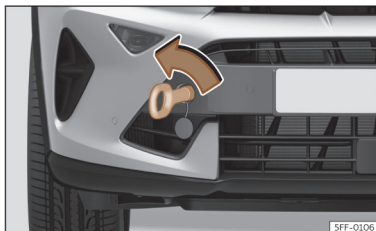

Fig. 214 Right side of the front bumper: towline anchorage screwed in.
- Screw the towing eye in the housing by turning it to the maximum **anticlockwise** >>> **Fig. 214**, >>> ⓘ. Use a suitable object that can completely and securely tighten the towing eye in its housing.